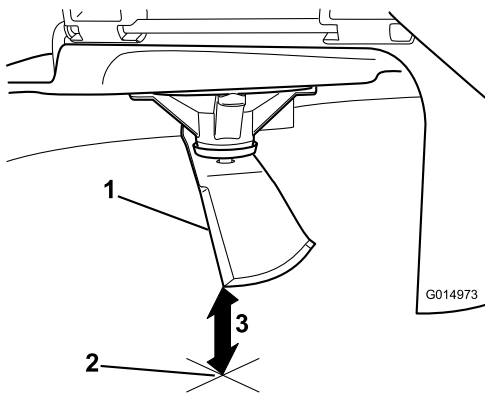

**Figure 52**
4. Rotate the same blade 180 degrees, so that the opposing cutting edge is now in the same position (Figure 52).